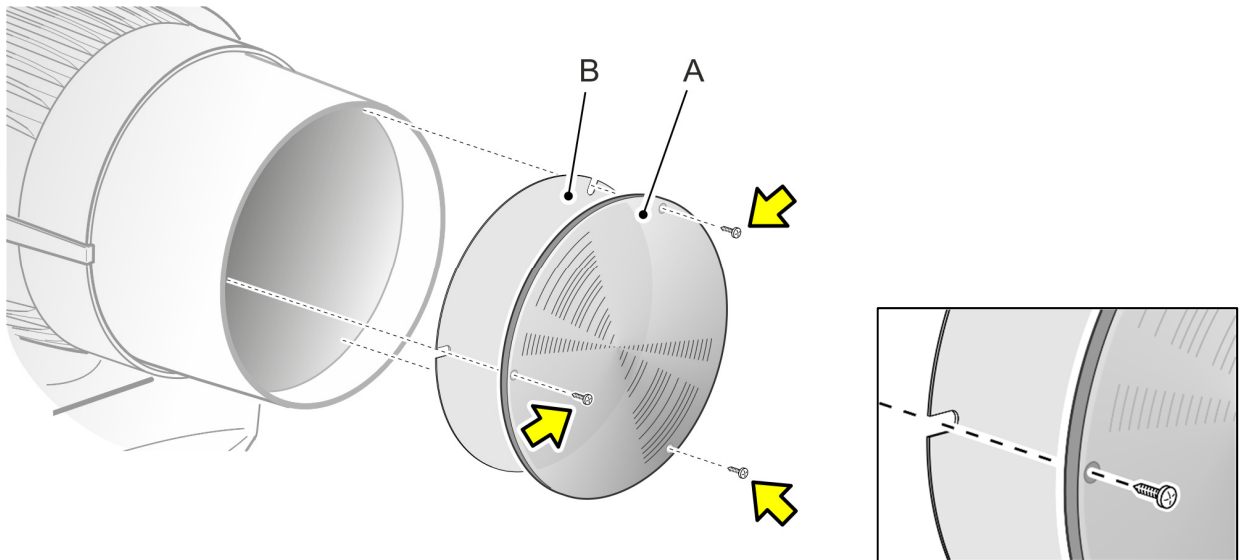

Figure 9. Removing a micro-Fresnel lens
2. See Figure 9. Remove the three Phillips #1 screws (arrowed) from the lens in the front of the head.